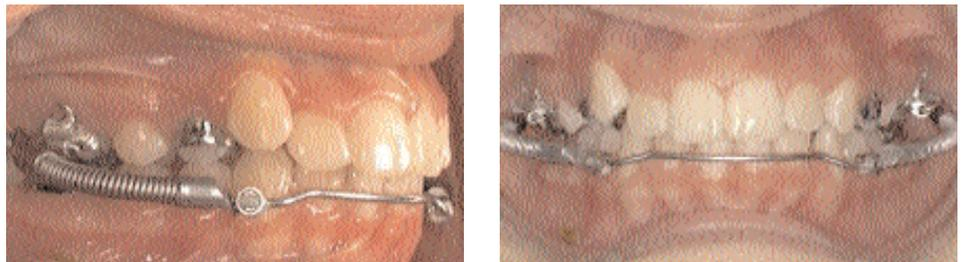

Figure 1. Side and front view using Ormco Bite Fixer Springs.
- To avoid soft-tissue irritation in the back of the upper cheek, allow no more than 3 mm distal protrusion of the horizontal leg through the upper tube of the upper elbow (Figure 1).
I have developed a treatment system that I've named the Class II Spring Appliance** (Figures 1 & 2), which is fabricated with a maxillary expansion appliance, a Triple "L" Arch (lower labial lingual arch) and Ormco Bite Fixer Springs. (Note: The Class II Spring Appliance can be combined with other bite-jumping springs. When ordering the Triple "L" Arch from AOA/Pro Laboratory, indicate what type of bite-jumping spring you want used and the appliance will be modified accordingly.)